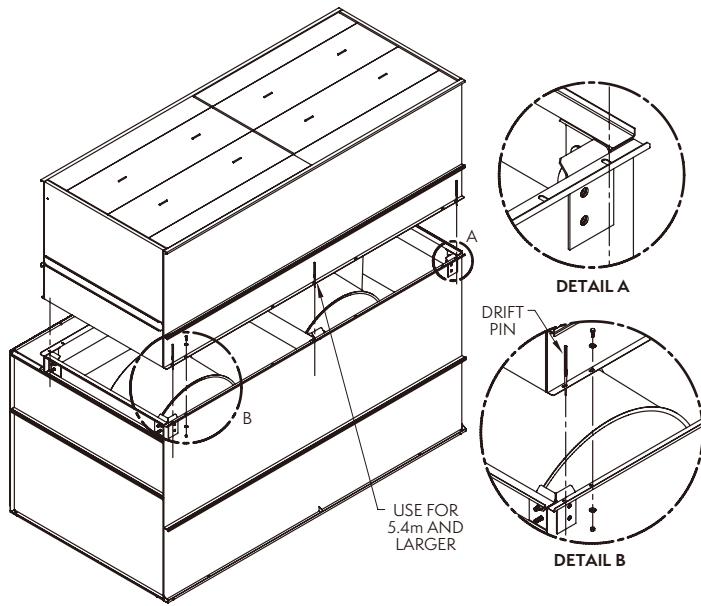

Figure 12 – Mating Casing (Top) Section to Basin & Fan (Bottom) Section
Lower the casing section to within several inches of the basin and fan section, making sure the two sections do not touch and the sealer tape is not disturbed. Place drift pins (see **Figure 12 and 13**) in at least three (3) of the corner mounting holes and gradually lower the casing section into place using the drift pins to guide the section down accurately onto the mating flange. On long sections, 5.4m and longer, drift pins should be used midway along the sides as well.